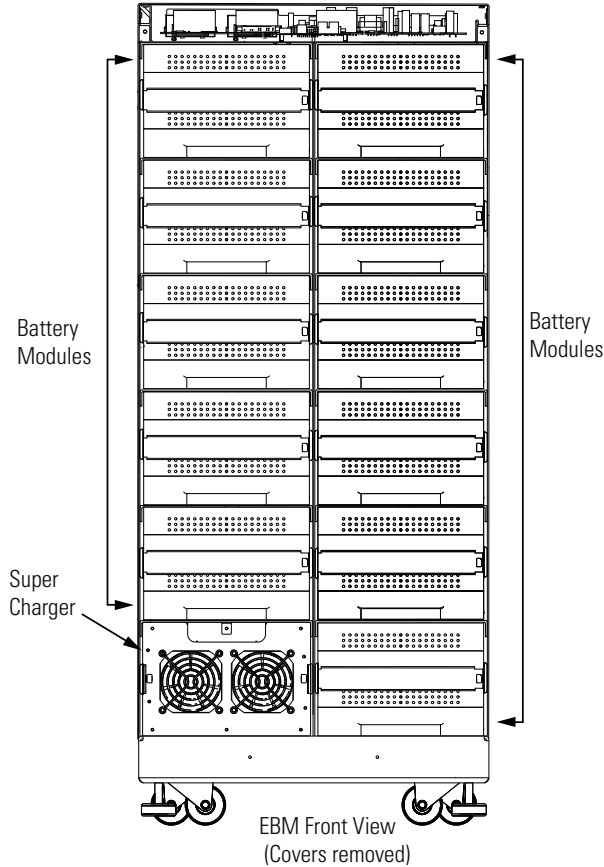

Figure 47. EBM Battery Modules and Charger
5. If you installed the optional battery cabinets (EBMs), install the battery modules using the same procedure as the UPS modules. If applicable, install the super charger in the lower left slot of the EBM (see Figure 47)